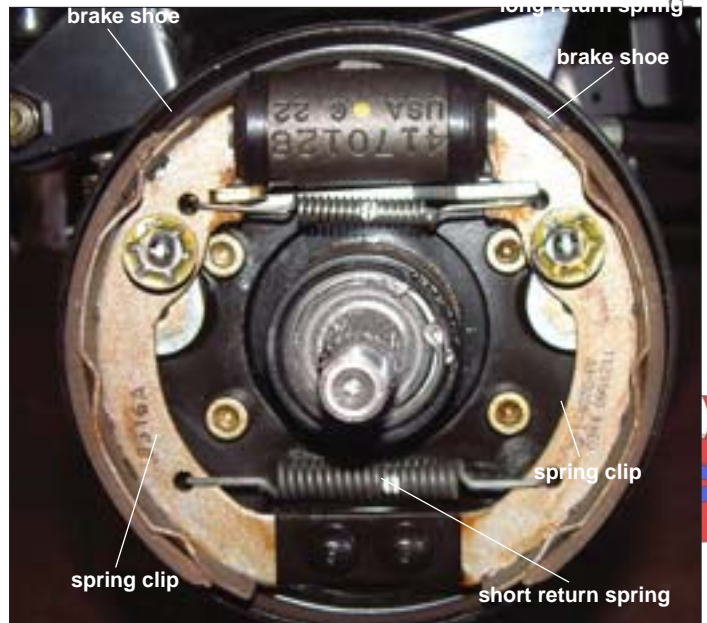

Figure 5-3. Rear Drum Brake - Dana Spicer Models
4. Use a brake spring tool and remove the shoe retaining spring and return spring (short and long). Unhook each spring from the brake shoes and set it aside (Figure 5-3).
1. Place brake shoes into position on retaining pins. Install spring clips. Make sure shoes are positioned properly on cylinder. Check that brake shoes are correctly positioned into the slots provided in each master cylinder piston (Figure 5-3).